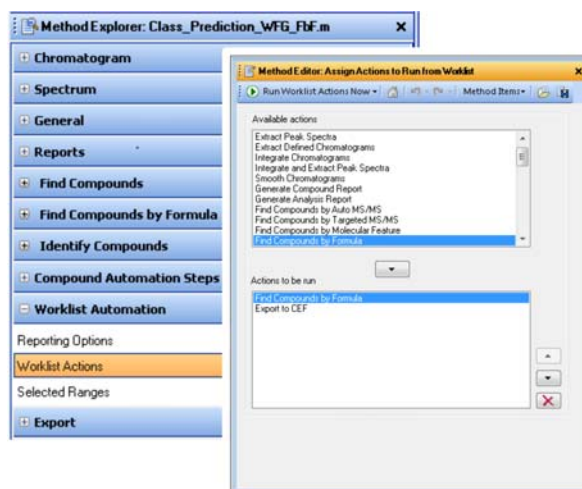

Figure 117 Assign Actions to Run from Worklist for use with DA Reprocessor
- c Move the actions in the **Available actions** list so that the **Export to CEF** action is listed after the **Find Compounds by Formula** action as shown in Figure 117 on page 116.